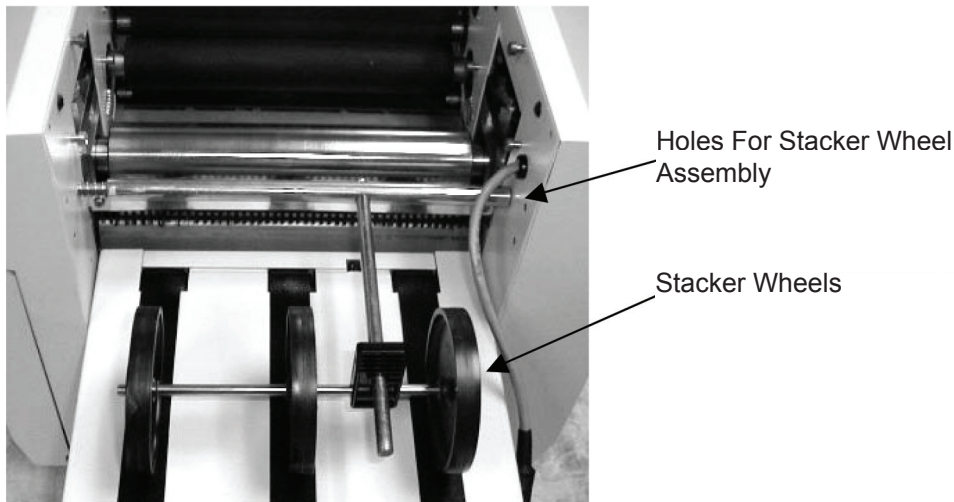

Fig. 20
7. Install the stacker wheel assembly into the holes indicated below. (Fig. 20)